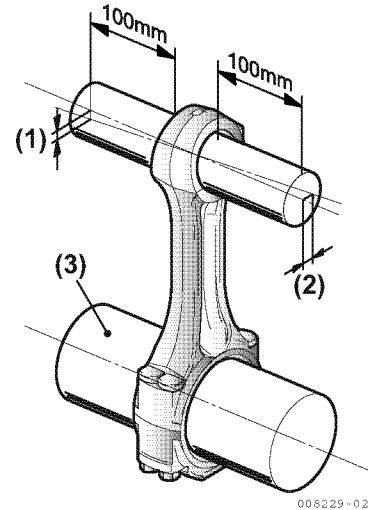

Figure 5-95
1. Insert the appropriate mandrel into both ends of the connecting rod (**Figure 5-95**).
3. Replace connecting rod if it exceeds the specifications shown (**Figure 5-95**).